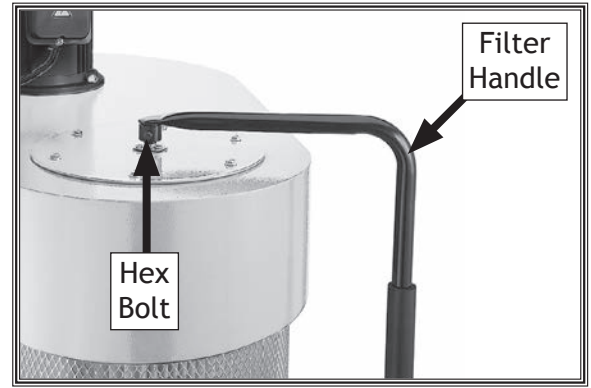

Figure 27. Filter handle installed on spindle.
28. Install filter cleaning handle on spindle so that M6-1 x 16 hex bolt tip aligns with spindle flat, then tighten hex bolt (see **Figure 27**).